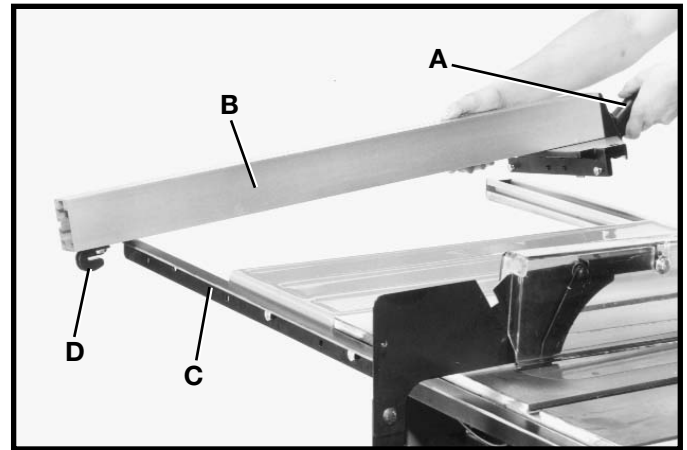

Fig. 11
1. With the fence handle (A) Fig. 11, in the raised position, place the rip fence (B) onto the rear guide rail (C) so the hooked end (D) fits over the top ledge of the guide rail.